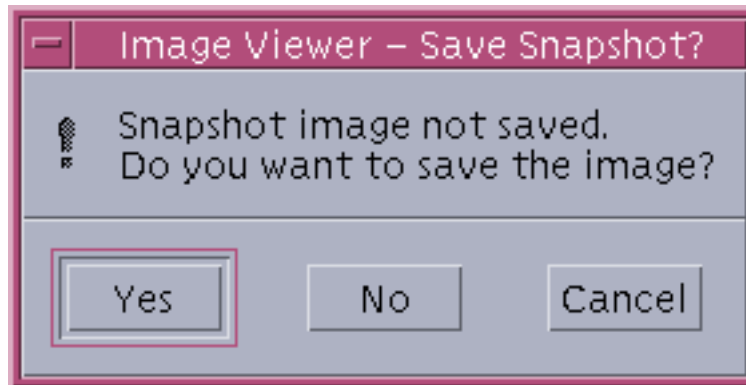

Figure 5 Image Viewer - Save Snapshot? Window
14. The Image Viewer - Save Snapshot? window appears (see Figure 5), with the message Snapshot image not saved. Do you want to save the image?. Click on the **No** button.